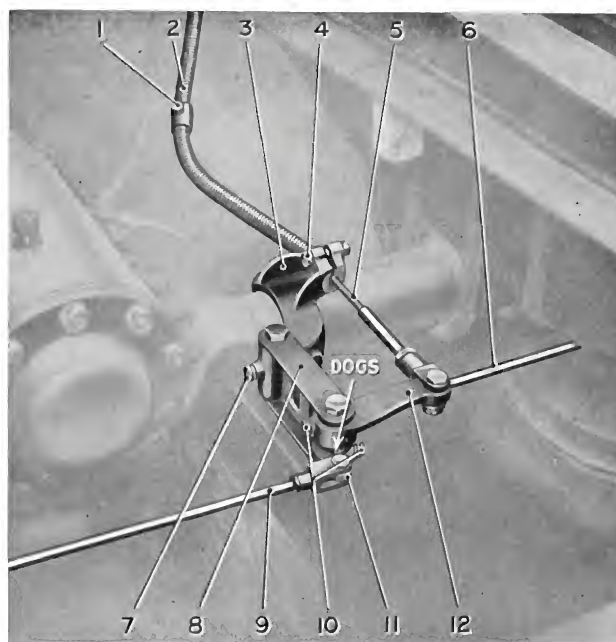
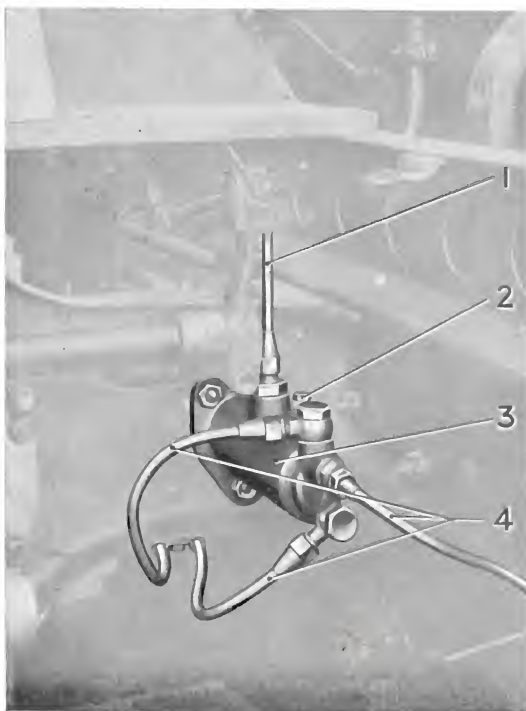
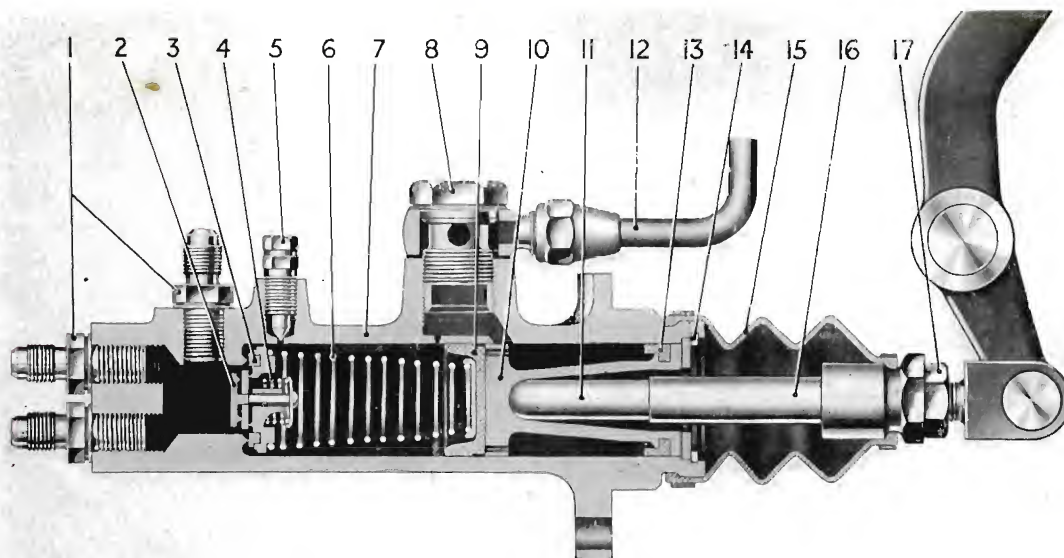

Fig. 1.
Fig. 2.
Fig. 4.
The handbrake is operated by a cable (5), Fig. 1, pulling the lever (12), which picks up by means of dogs on the lever bosses, the double-ended lever (11) and operates the wedges through the pull rods (6 and 9). The link (8) is freely pivoted and so provides full compensation between the wheels.
actuated. The hydraulic master cylinder (3), Fig. 2, is bolted to the engine rear cross member, the piston being operated by a short push rod connected to the pedal. Fluid from the master cylinder is forced along the pipes (4) to the wheel cylinders (7), Fig. 2, the pistons (16) of which, on rear wheels, pick up the brake rods and operate the cones. The lever (11), Fig. 1, is allowed to swing by the dog arrangement. On front wheels hydraulic operation only is used, and in this case the pistons are coupled direct to the cones. The hydraulic operation ensures equal application on all wheels.
The master cylinder is mounted on a cross member as shown in Fig. 2. The reserve tank containing the fluid is mounted on the bulkhead in the driver's cab and connected to the master cylinder by the feed pipe (12), Fig. 4.
When at rest, the piston (10), Fig. 4, is in the position shown, with the small port just ahead of the cup (9). If the fluid expands, due to a rise in temperature, it passes through this port to the reserve tank, so that a constant volume of fluid is maintained in the system. The piston is retained in the off position by the spring (6), which also holds the inlet valve (3) closed, thus maintaining a pressure of 8 lb. per sq. in. in the system to expand the cups and effectively seal the system. The space behind the piston is kept full of fluid through a diagonal port, leakage being prevented by the auxiliary cup (13). It is essential that the forward port is cleared by the cup when in the off position and to ensure this, the push rod (16) is set with a slight clearance. This clearance will show as about $\frac{3}{4}$ in. free travel on the brake pedal.